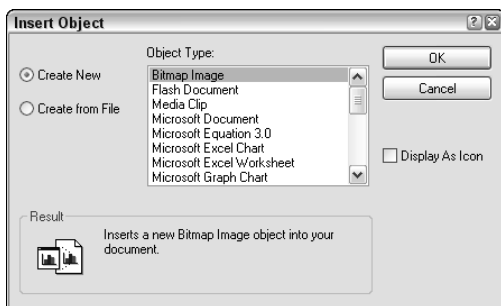

Figure 27-12: The Insert Object dialog box
1. From AutoCAD, choose Insert ⇨ OLE Object to open the Insert Object dialog box, shown in Figure 27-12. This starts the INSERTOBJ command. (The entries listed in this dialog box depend on the applications you have installed on your computer.)